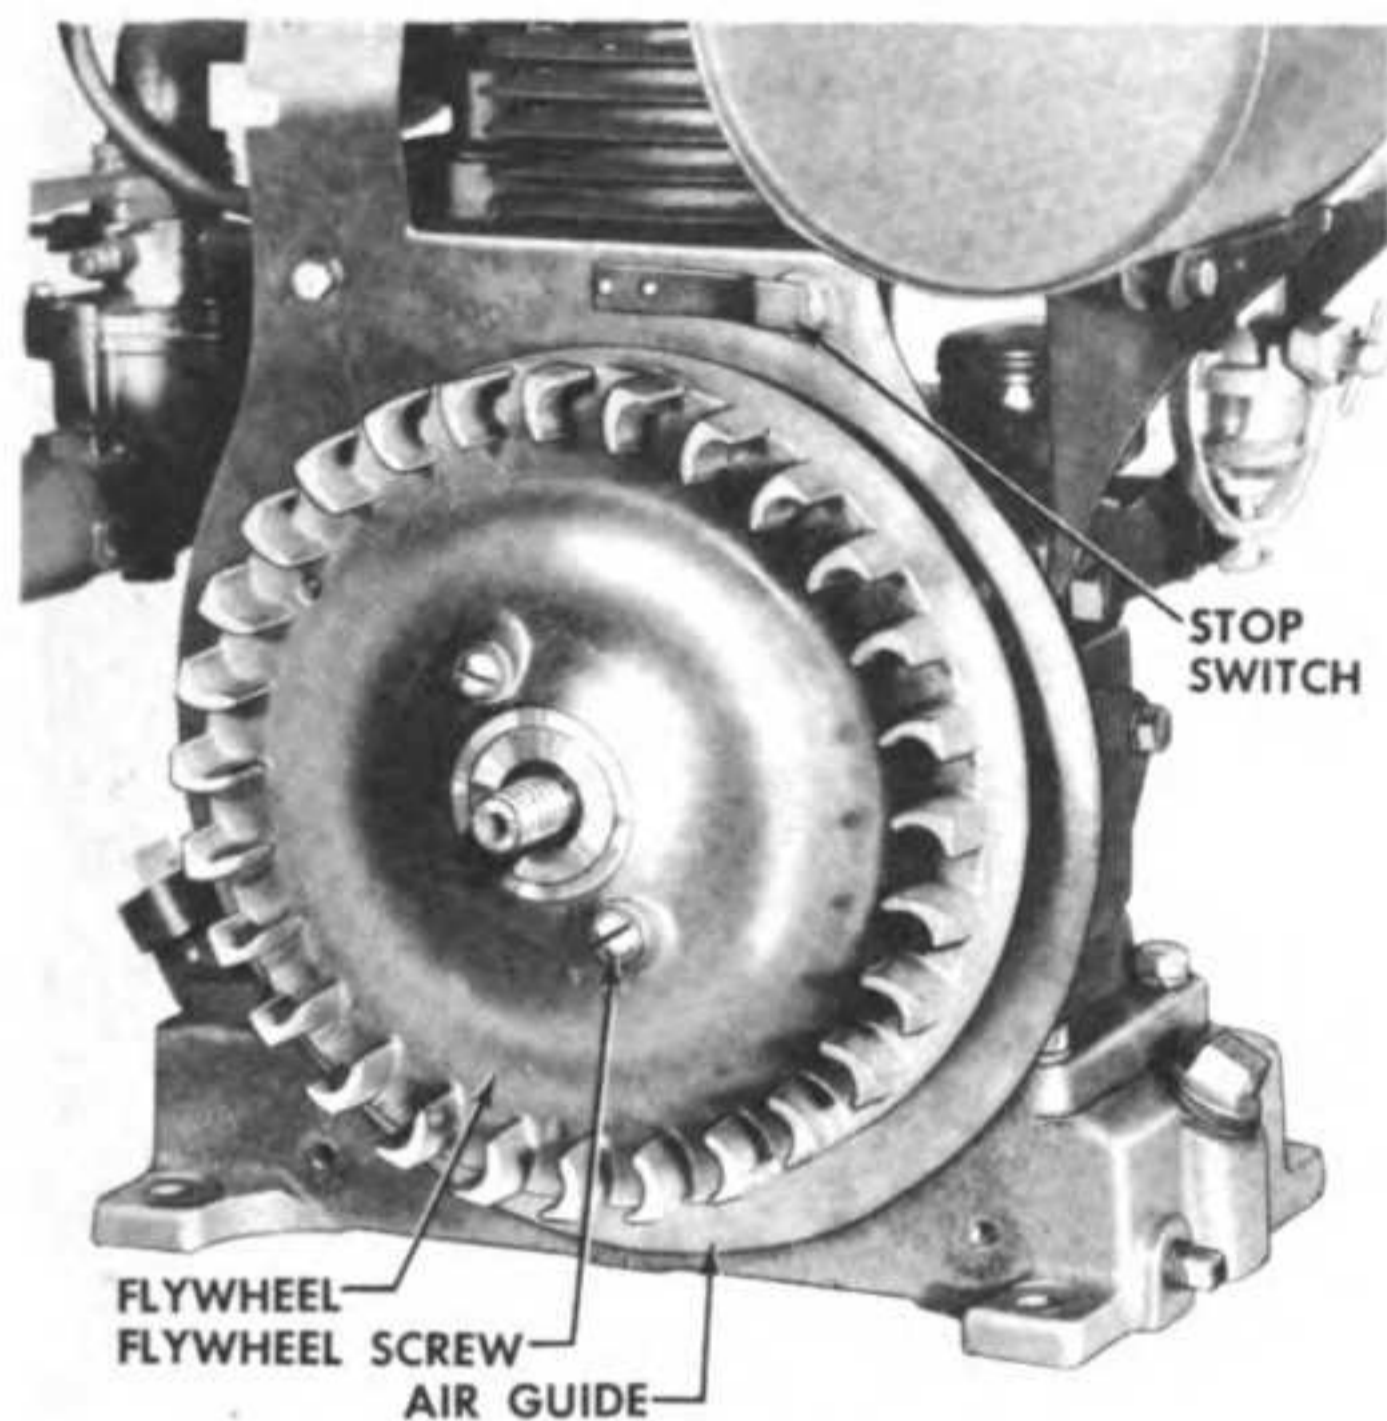

Figure 33—Blower Housing Removed
h. Be sure the flywheel key is in place; coat the crankshaft with a thin coat of grease, and position the flywheel on the crankshaft. Install the two flywheel screws. (See figure 33.)